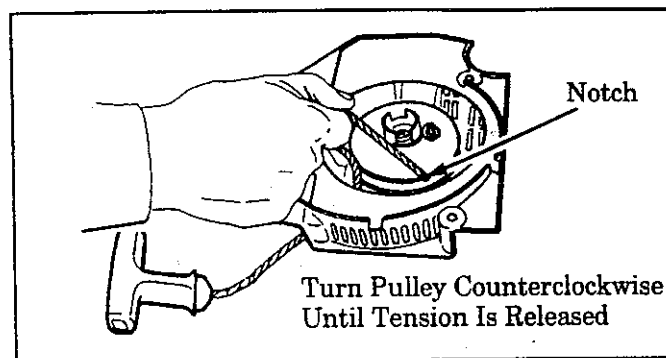

Figure 33
4. If the starter rope is not broken, release the spring tension by pulling about 10 inches of rope from the pulley and catch the rope in the notch as shown in Figure 33.
16. Pull out (inside the pulley housing) 10 inches of rope and catch the rope in the notch in the pulley. Figure 33.